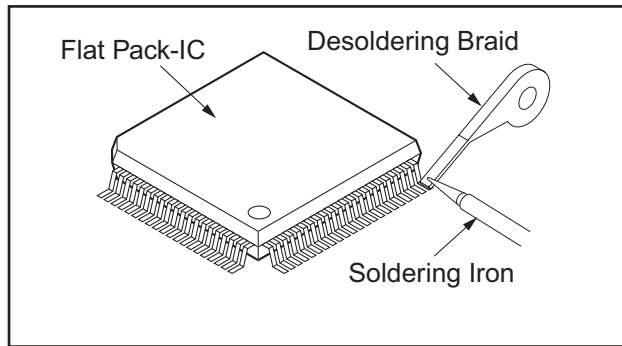

Fig.2-3
- (1) Using desoldering braid, remove the solder from all pins of the flat pack-IC. When you use solder flux which is applied to all pins of the flat pack-IC, you can remove it easily. (Fig.2-3)